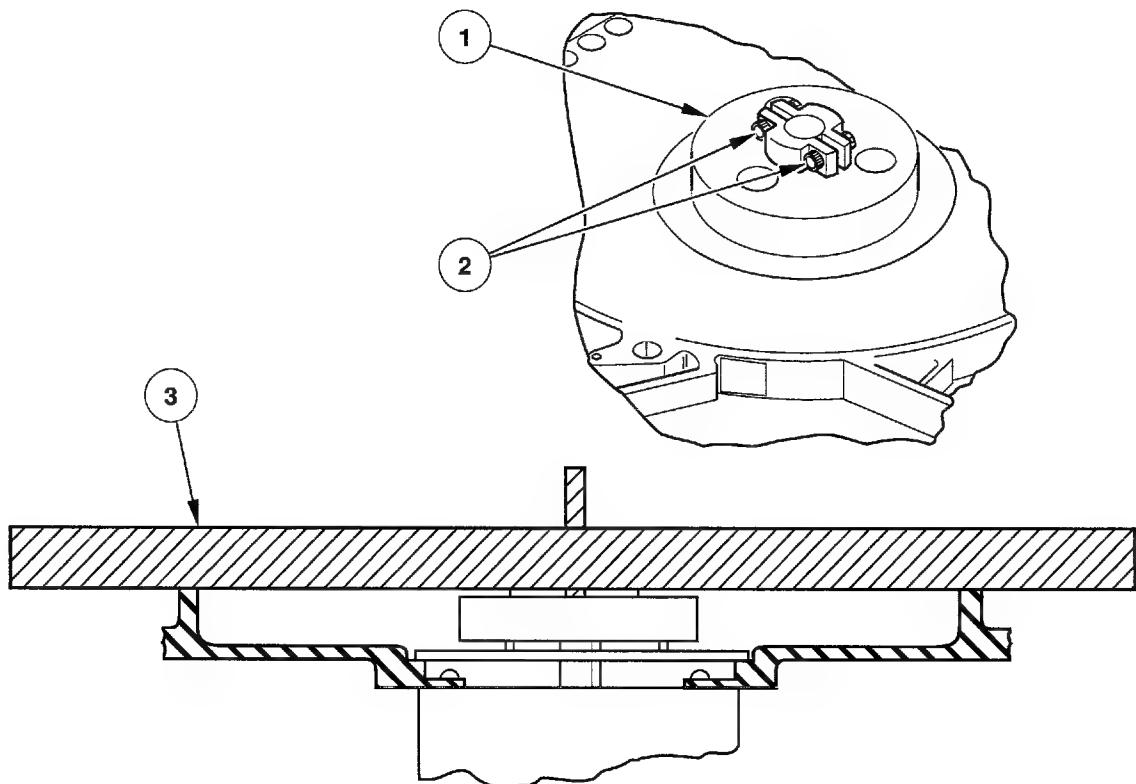

Figure 6-38. Take-Up Hub Adjustment
1. Secure the tachometer away from the take-up hub (1) using tape or string.
2. Loosen the two screws (2) securing the take-up hub (1) to the motor shaft.
3. Position a hub-height adjustment tool (3) so that it lies on the deck plate as shown in Figure 6-38.